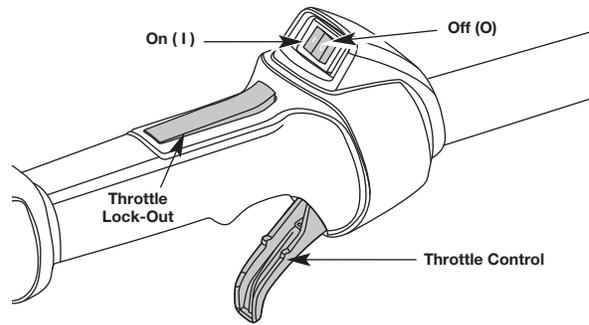

Fig. 19
- NOTE:** There is no need to turn the unit on. The On/Off Stop Control is in the **ON (I)** position at all times (Fig. 19).
2. Press and hold the On/Off Stop Control in the **OFF (O)** position until the unit comes to a complete stop (Fig. 19).